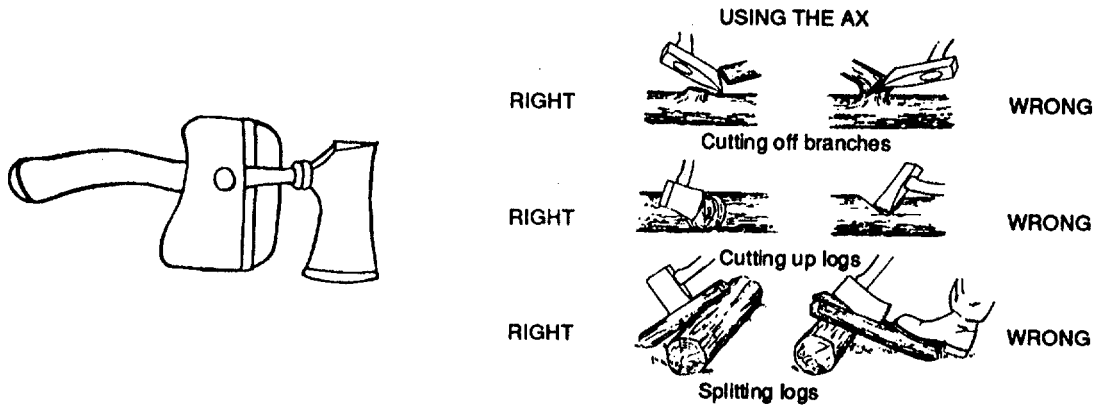

Figure 2-51. Ax, Camp with Carrier
- ac. **Ax, Camp with Carrier.** The ax (See Figure 2-51) is used for heavier wood cutting chores in combination with a saw.